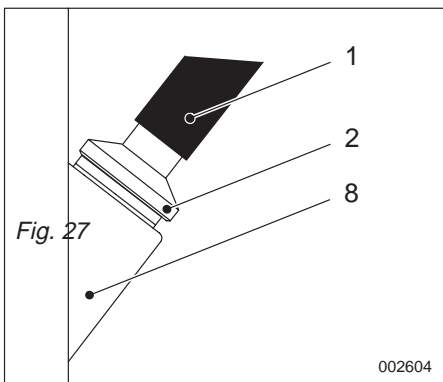

Fig. 27
3. Connect powder hose (3) onto pump (5).
4. Connect the other end of the powder hose (1, Fig. 27) to the adapter (2, Fig. 27 – P/N 460 953).
5. Insert the adapter into the powder hose mount (8) on the system.